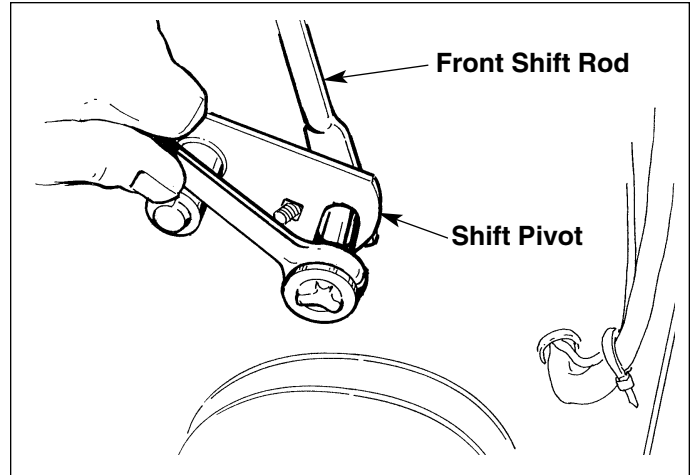

Figure B-23. Disassemble Shift Pivot/ Front Shift Rod Assembly
7. See Figure B-23. Unscrew the hex nut and related hardware used to connect the shift pivot assembly to the front shift rod.